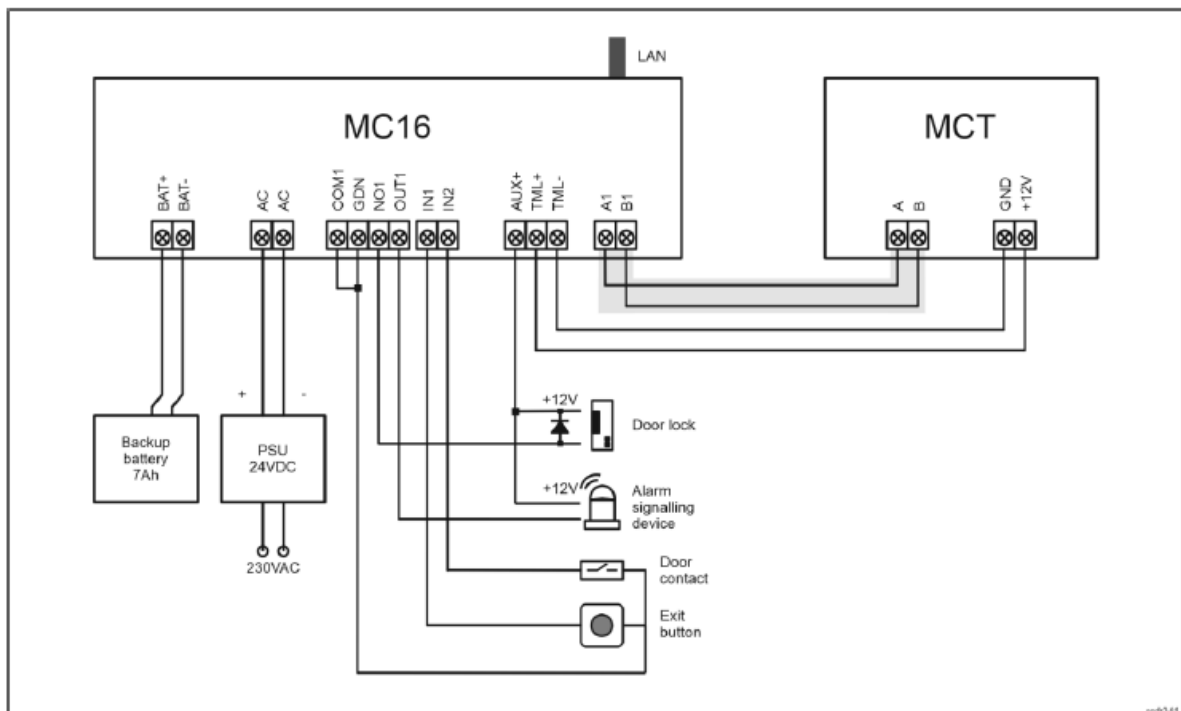

Fig. 9 Typical connection diagram for the terminal and MC16 access controller
- 1. Connect the device to the RUD-1 interface (fig. 9) and connect the RUD-1 to the computer's USB port.